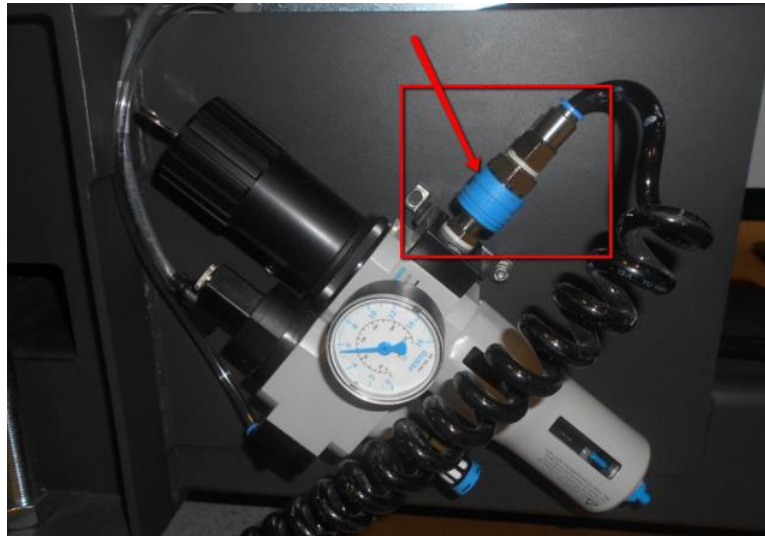

Figure 13 Input port to Air Pressure Regulator
5. Connect the incoming input port to Air Pressure regulator as below Figure 13.